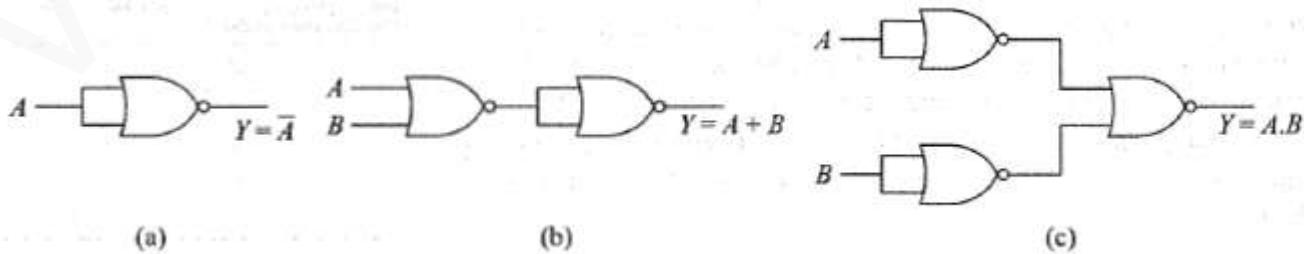
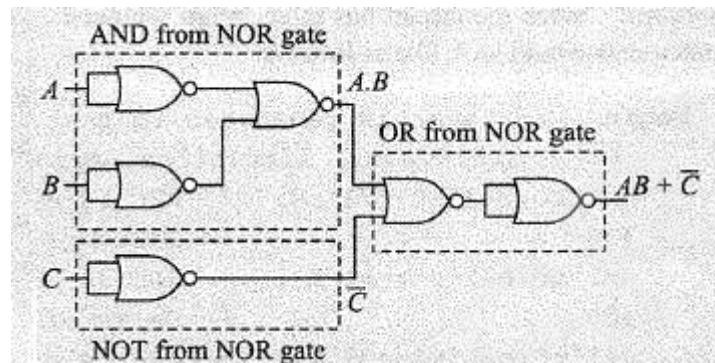

Figure 2.21: Universality of NOR gate (a)NOT from NOR (b)OR from NOR (c)AND from NOR
Figure 2.41: Realization of $Y=AB+C'$ using only NOR
- Realization of other gates using only NOR gates (Figure 2.21).
In Method-1, we realize it using NOR gate. We realize individual logic operations like AND, NOT and OR as depicted in Fig. 2.21. The solution is given in Fig. 2.41.